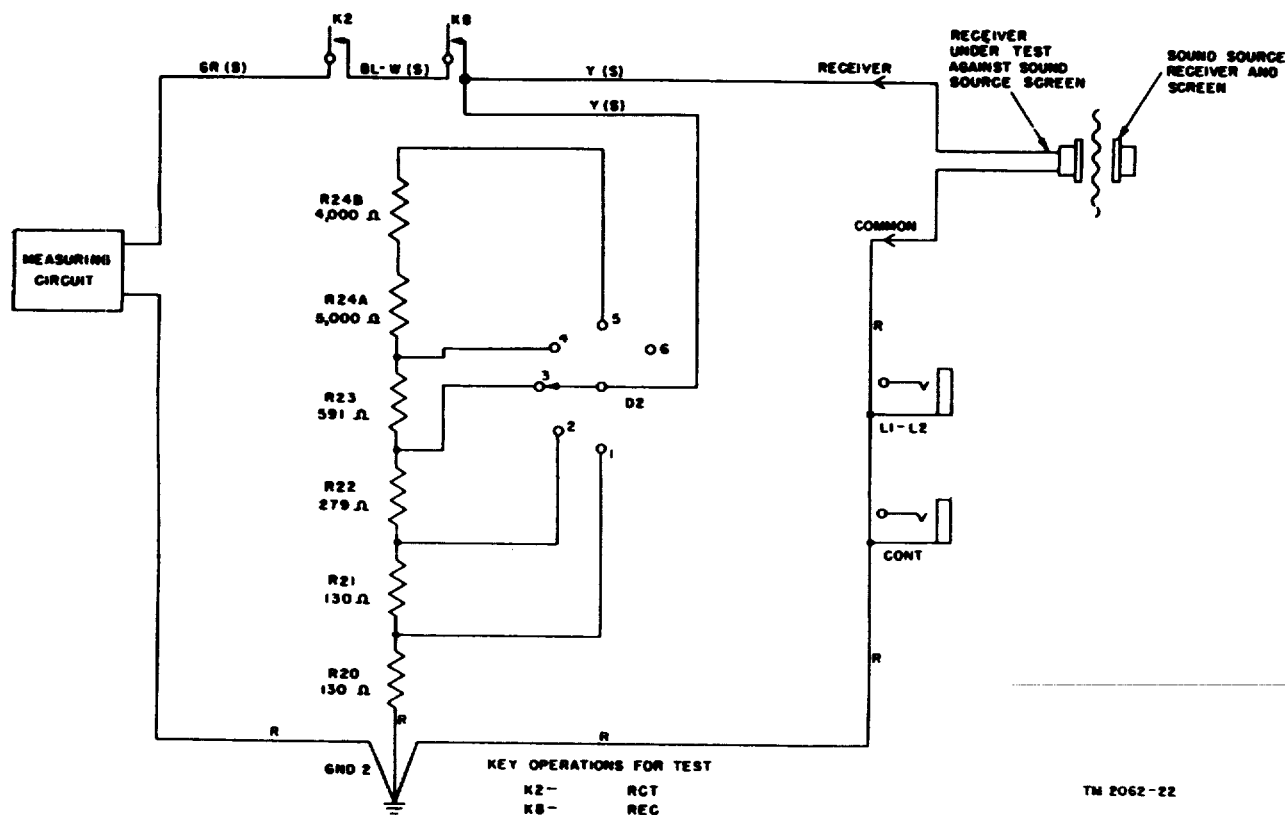

Figure 43. Receiver and magnetic-type microphone test circuit, schematic diagram.
d. RECEIVERS AND MAGNETIC-TYPE MICROPHONES (fig. 43). (1) No output (failure of the meter indicator to deflect) in the efficiency test of receivers or magnetic-type microphones (par. 27) may be due to defects in the measuring circuit or the test receiver, to the key contacts or the associated wiring being open circuited, or to load resistors R20 to R24 being short-circuited.
(2) If the meter indicator deflects off scale, control D2 or D4 may be set in incorrect positions, load resistors R20 to R24 inclusive may be open-circuited, or control D2 may be open circuited.
(3) Examine the measuring circuit and determine whether or not it is properly adjusted. Operate switch S1 to OFF and, using an ohmmeter, check the components and the continuity of the circuit from point to point.